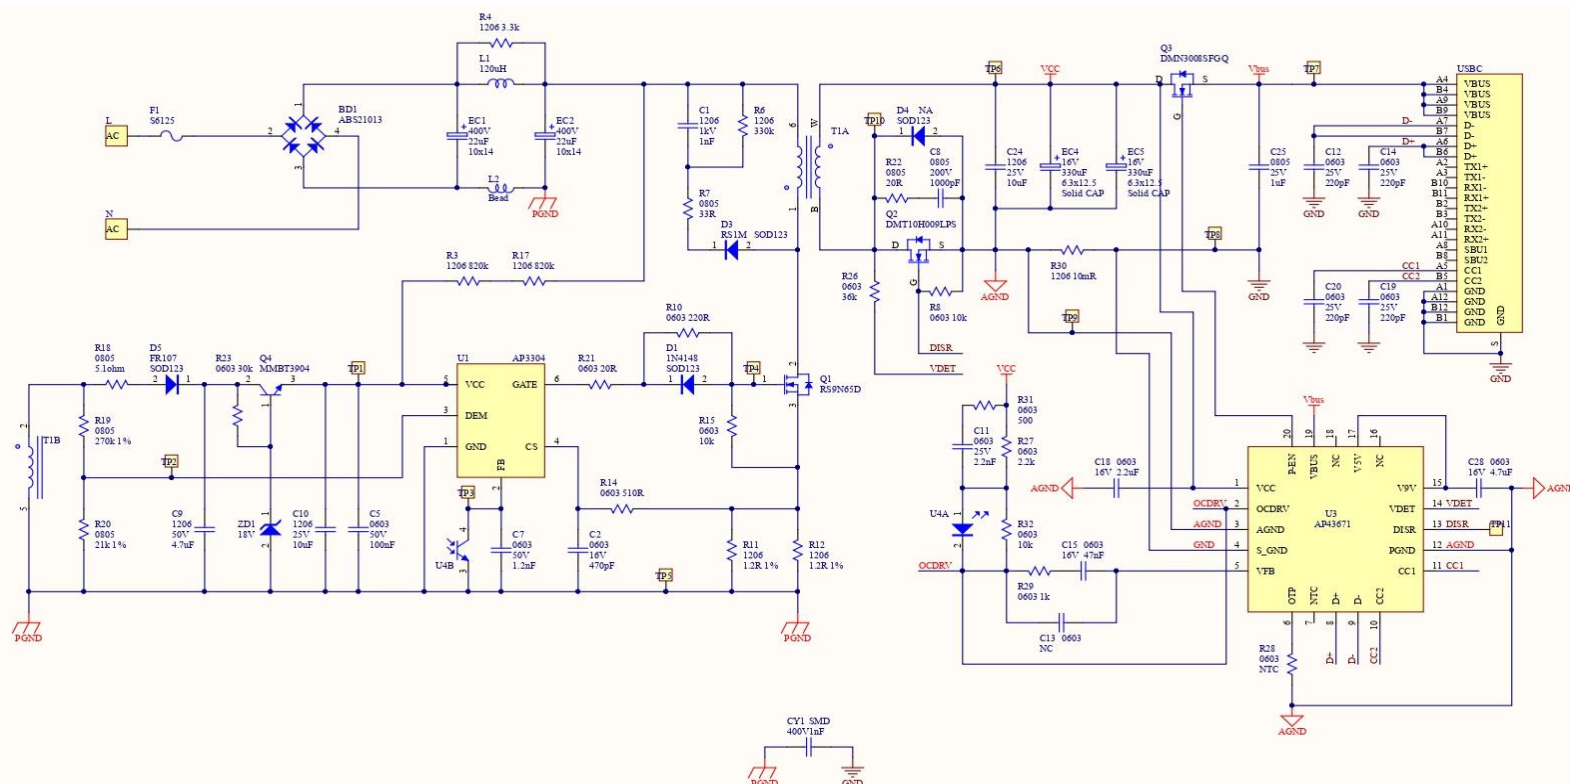

Figure 4. A Real 25W Flyback Adaptor based on AP43671 and AP3304A
A cost-effective 25W AC flyback adaptor schematic is shown in Figure 4 below, where the primary side uses the AP3304A (a multi-mode (QR+CCM) PWM controller) and the secondary side uses the AP43671 (a highly integrated PD controller embedded with a synchronous rectification (SR) controller). It is ideally targeted for cost-performance-sensitive USB Type-C adaptors and charger applications.